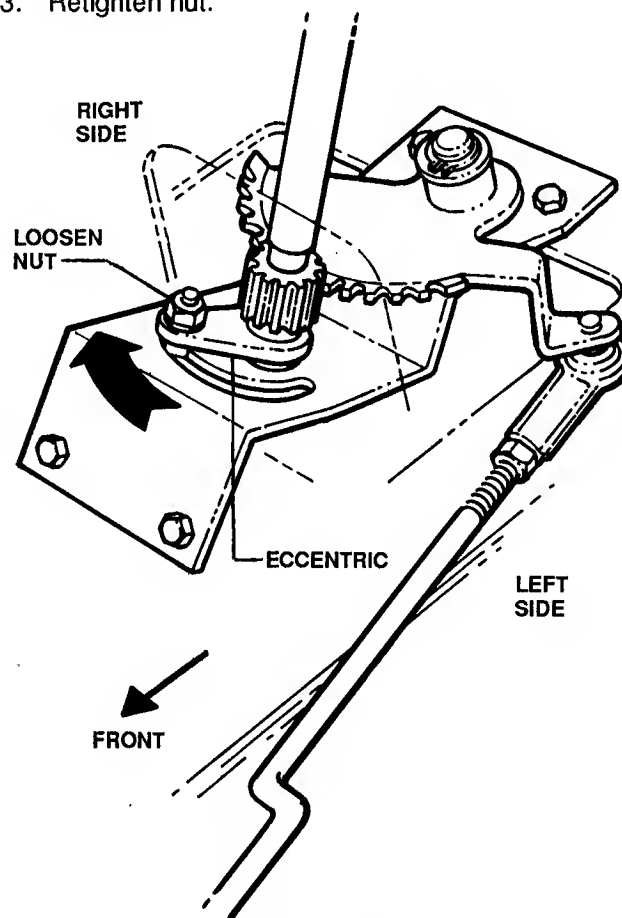

FIGURE 30
1. Working from the left side of the tractor, use a 7/16" wrench to loosen nut on top of carriage bolt. See Figure 30.